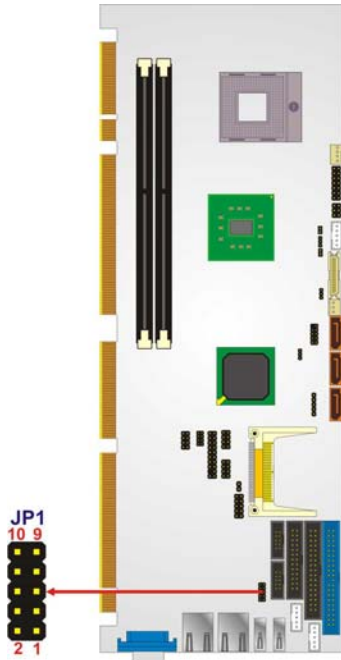

Figure 5-11: Serial Port IR Mode Selection Jumper Location
- Jumper Location:** See Figure 5-11
The Serial Port IR Mode Selection jumper location is shown in **Figure 5-11** below.